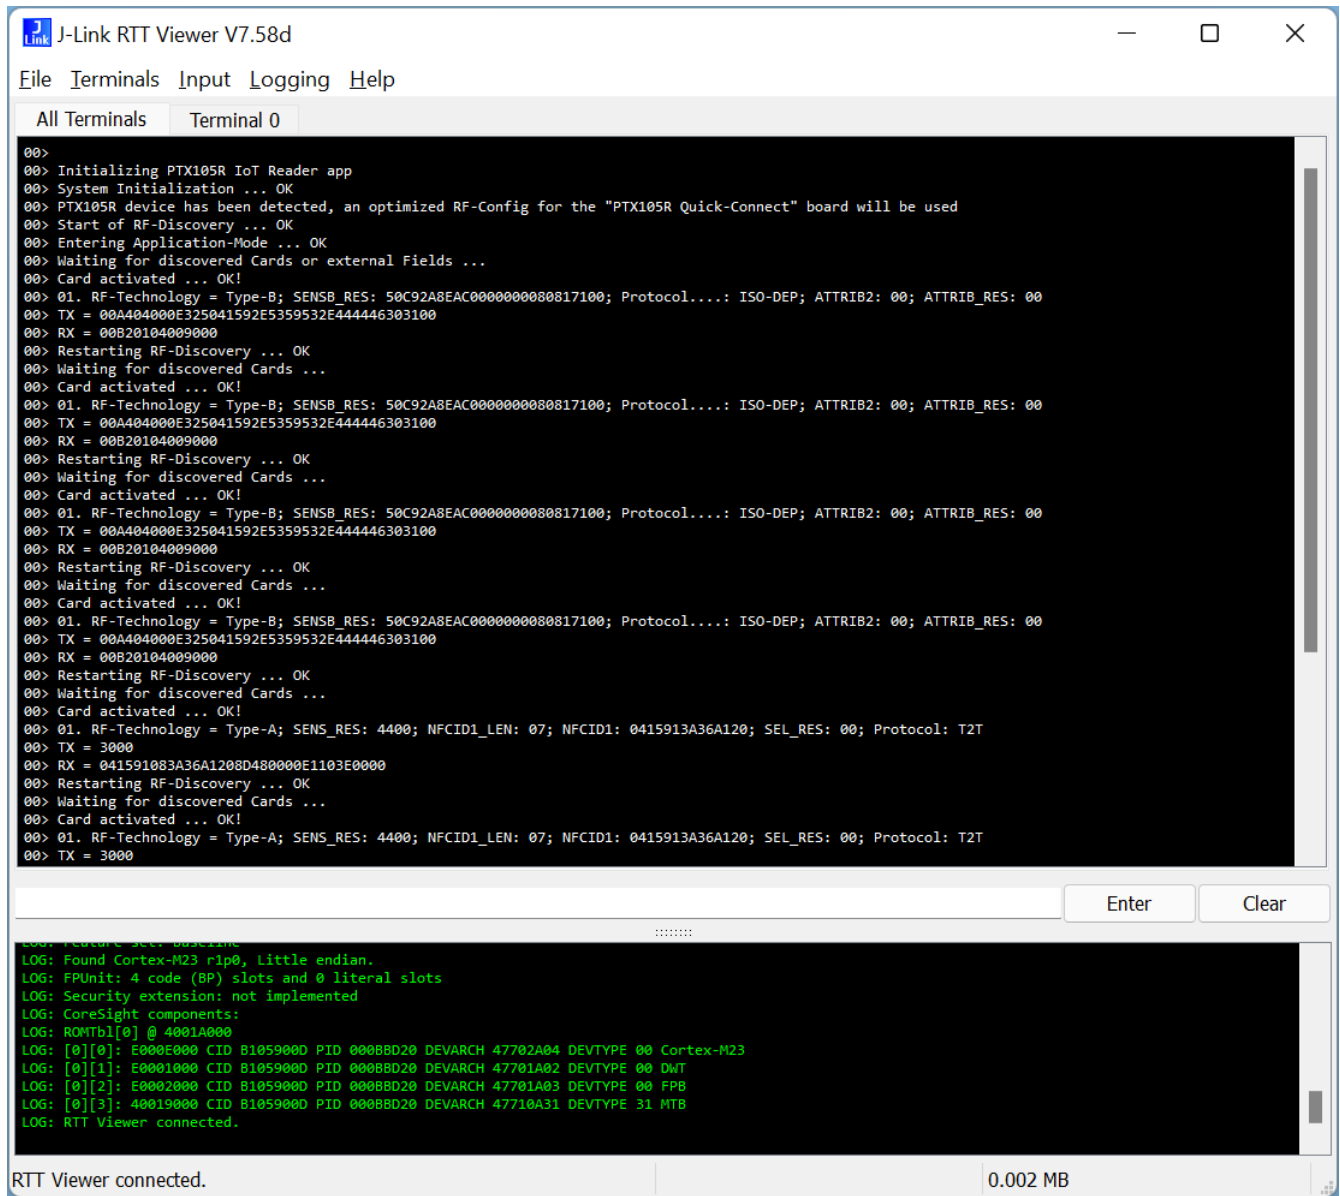

Figure 10. RTT Viewer Terminals Window
- Figure 10. RTT Viewer Terminals Window9